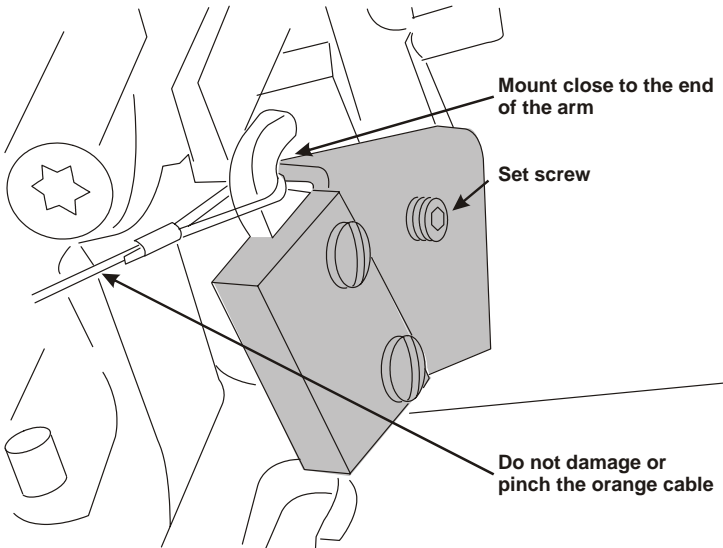

Figure 4.2
- ☐ Apply Loctite to the set-screw and mount the magnetic actuator to the transmission arm under the dash (Figure 4.2).